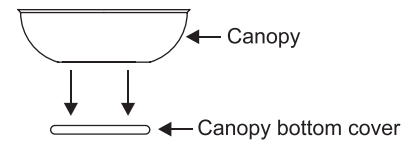

Figure 8-1
1. Remove the decorative canopy bottom cover from the canopy by depressing the three studs (Fig. 8-1)